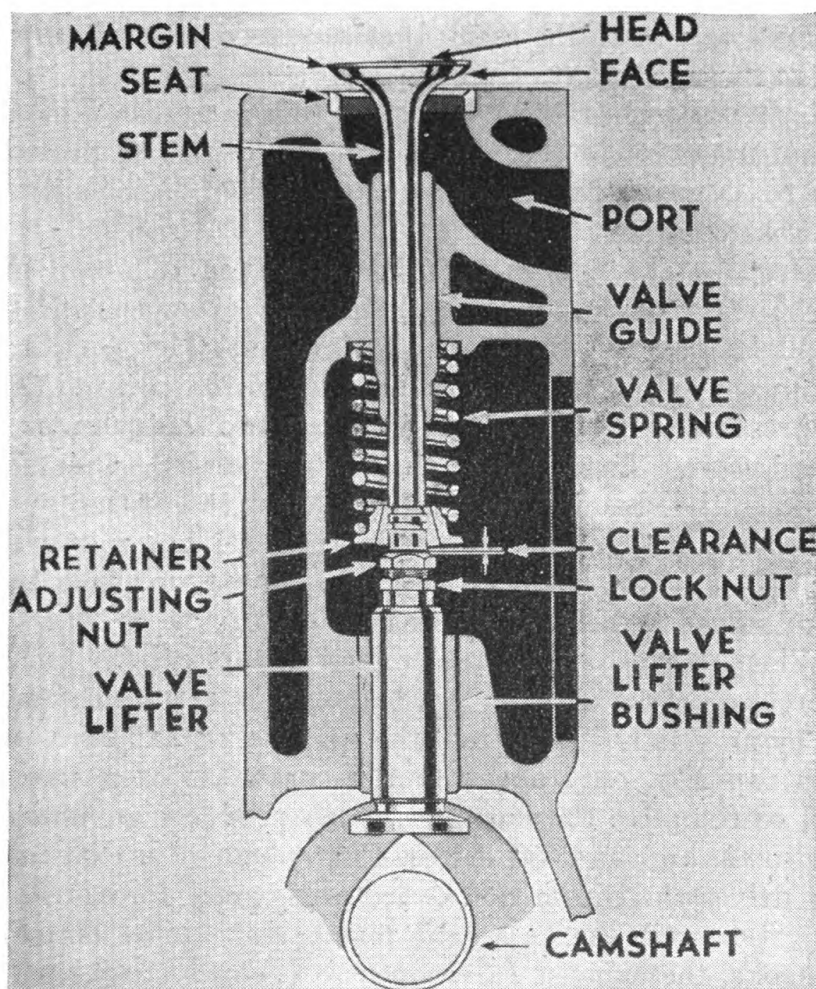

FIGURE 9.—Valve and related parts.
*a. Cylinder block and head.*—Indicate that in the internal combustion engine, fuel is burned in a series of cylinders which are closed at the top and open at the bottom. Explain that because it is necessary to open the top of the cylinders at times for repairs and assembly, a removable top known as a cylinder head is fastened to the cylinder block by bolts and nuts. A gasket is placed between the head and block. Point out cylinder block and head in enlargement of figure 8 (or fig. 9) or on a cutaway model.
*b. Piston.*—Point out in enlargement of figure 8 (or fig. 9) or on cutaway model, that a piston fits tightly in the cylinder and is forced downward following each explosion of the fuel mixture in the combustion chamber. Mention that the horizontal lines on diagram indicate location of piston rings. Explain that piston rings are thin flexible metal rings set in grooves around the outside of the pistons and that their purpose is to make gas-and-oil-tight any space that may remain between the piston and the cylinder walls.